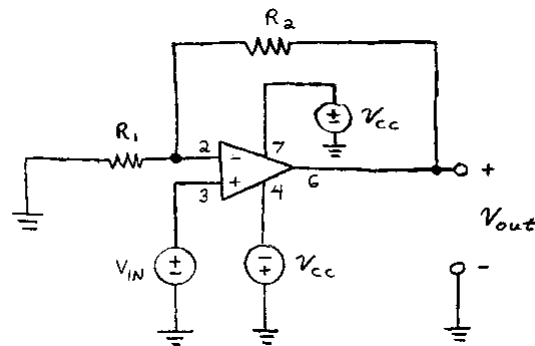

Figure 2 – Non-inverting Amplifier
The operational amplifier of Figure 2 is called a *non-inverting amplifier*. When a voltage is applied between the V_p terminal (pin 3) and ground, the op-amp output V_{out} (pin 6) will tend to become positive. This increase in voltage, which is measured relative to ground, is attenuated by the voltage divider formed by R_1 and R_2 and fed back to the op-amp's V_n terminal (pin 2), where it also appears as a voltage with respect to ground. The positive voltage applied between V_n and ground by V_{out} counteracts the increase in V_{out} by tending to force V_{out} in the negative direction. The output voltage will thus reach an equilibrium in which the voltage of the V_n terminal relative to ground rises to almost the same value as the voltage applied between the V_p terminal and ground. In this state, with $V_n = V_p$, and with $V_n = V_{out} (R_1 + R_2) / R_1$, the op-amp output becomes
- Build the circuit of Figure 2 with a 741 op-amp and these resistors. Refer to the datasheet in the appendix for the op-amp pin diagram. (Note that V_{cc} is VEE on the datasheet.)